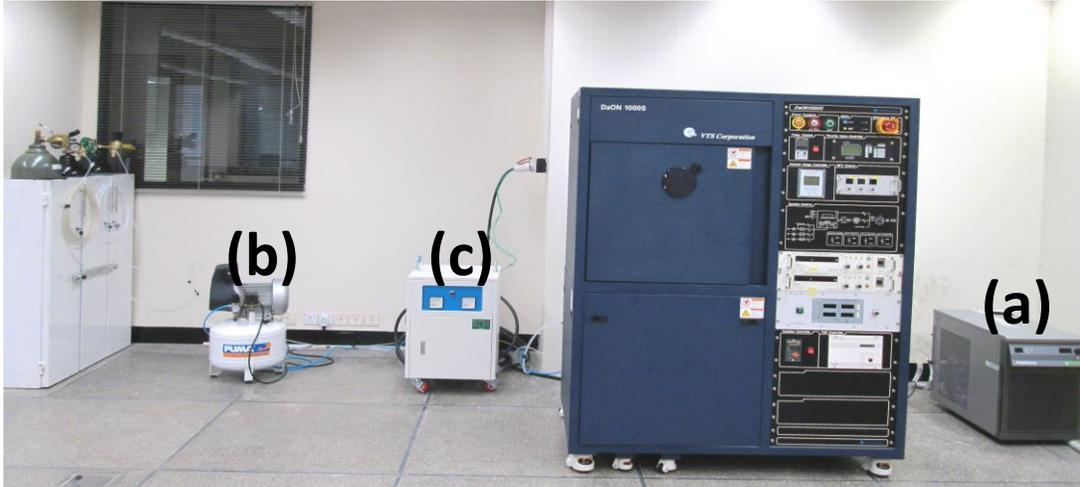

Fig. 1
1. Turn on the chiller (a), compressor (b) and transformer (c) as shown in fig. 1.